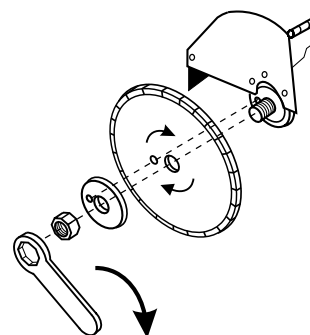

Figure 7. Mounting the Diamond Blade
5. Use the provided blade nut wrench to remove and install the blade (Figure 7).